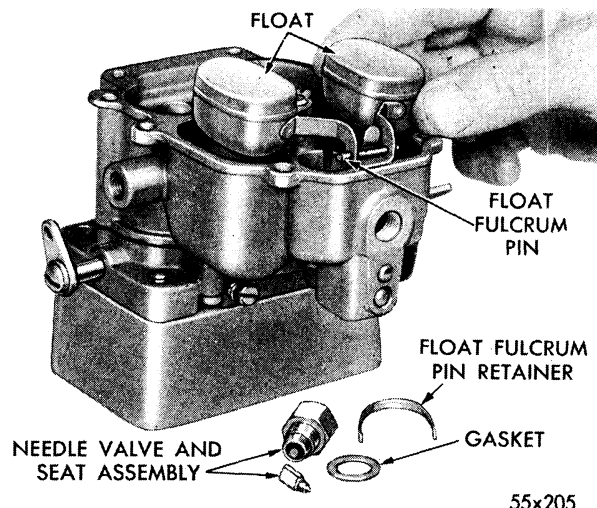
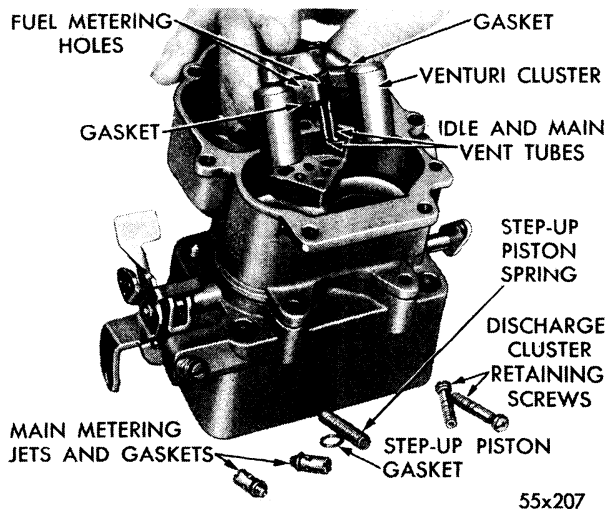

Fig. 6—Removing or Installing Float
Fig. 8—Removing or Installing Venturi Cluster
- (6) Remove the fuel inlet needle valve and seat, float and fulcrum pin, step-up piston, and rods from the main body. (See Figs. 6 and 7.)
- (7) Remove the step-up piston spring and gasket from the bottom of the piston well.
- (8) Remove the main metering jets, gaskets, and venturi cluster and cluster cover (with idle and main vent tubes) and discard the gasket.
- (9) Invert the carburetor and drop out the pump discharge check ball. (The metering of fuel from the accelerator pump is controlled by two drilled holes in the venturi cluster, see Fig. 8). **Do not remove the idle orifice or main vent tubes from the cluster. They can**